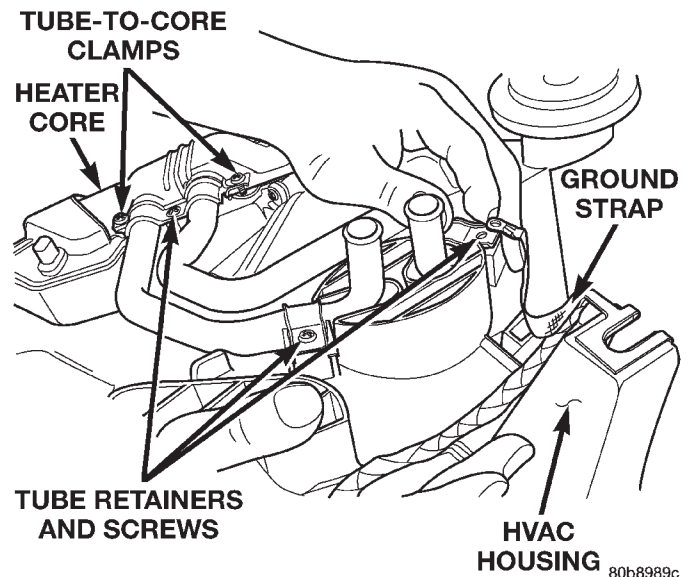

Fig. 54 Heater Core, Tubes, Retainers
(3) Remove the screws and retainers that secure the heater core and tubes to the heater-A/C housing (Fig. 54).